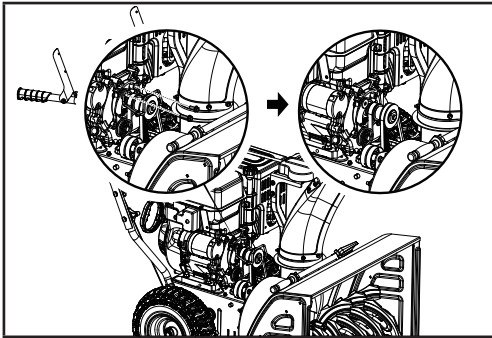

Figure 39
- Remove the 2 bolts (20 mm/30 mm) holding the belt guard (Fig. 39). Note the spring is loose at this point.